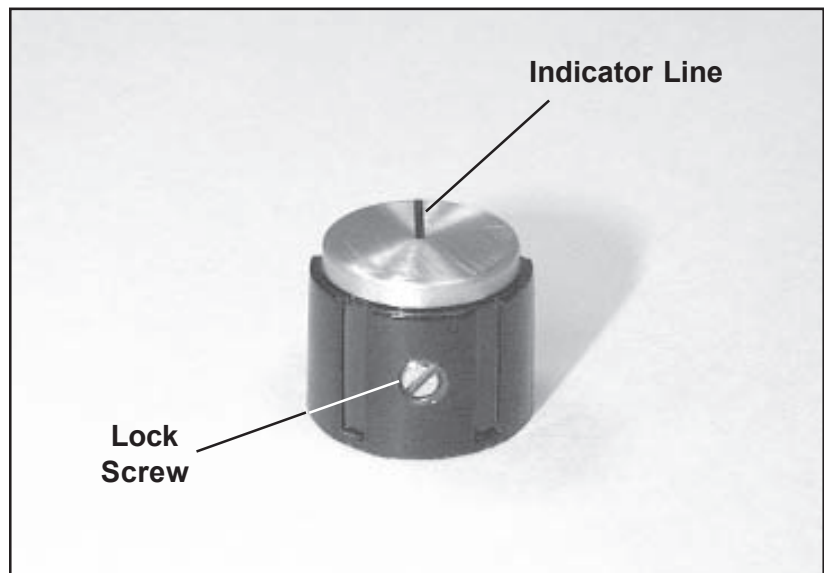

Figure 107. Knob and Lock Screw
1. Take note of the position of the indicator line on the knob (Figure 107).
6. With a small flat-blade screwdriver, loosen the lock screw on the side of the knob (Figure 107).